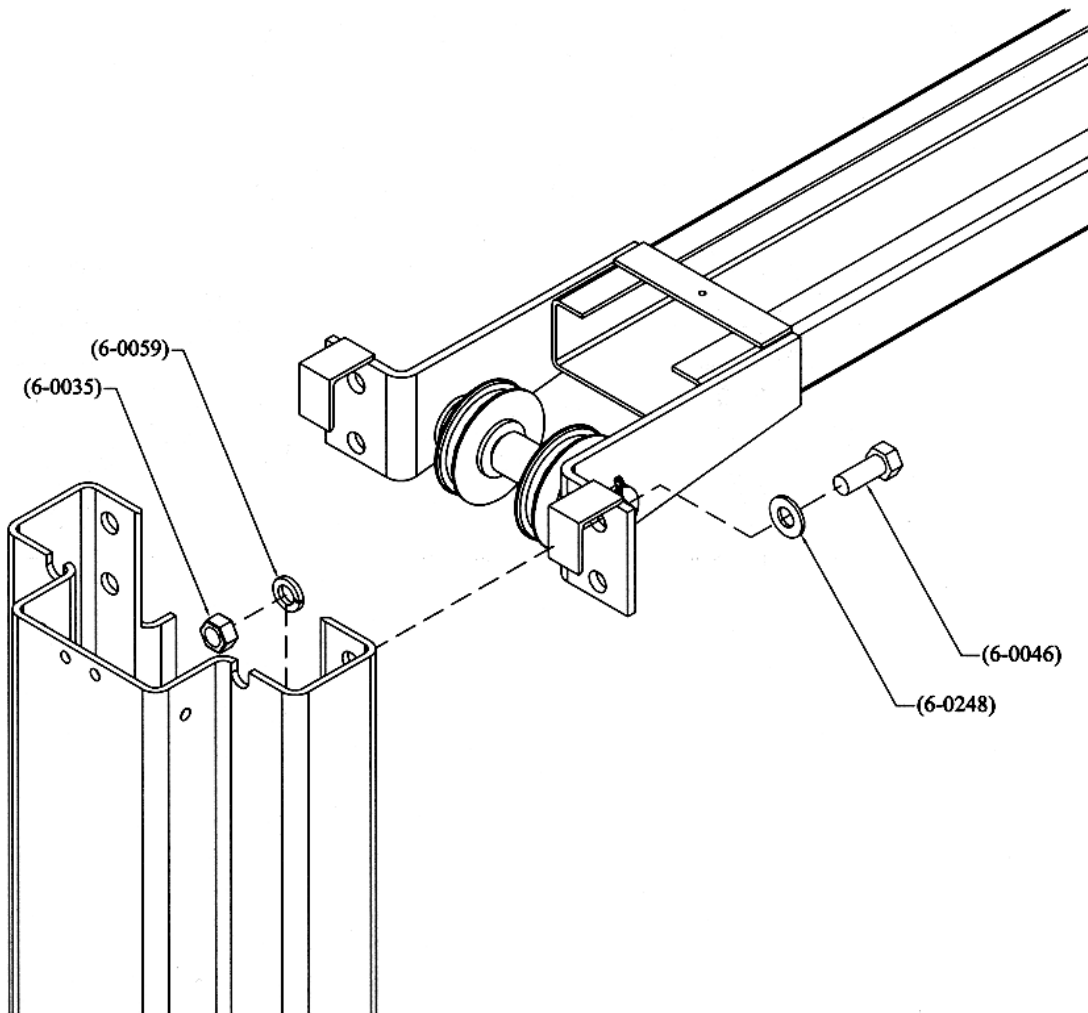

Figure 5 – Crossmember Assembly
2. Using a stepladder, install the crossmember using eight (8) ½”-16UNC x 1 ¼” lg. hex head bolts, eight (8) ½” ID lock washers, eight (8) ½” hex nuts and eight (8) ½” flat washers. See **Figure 5**